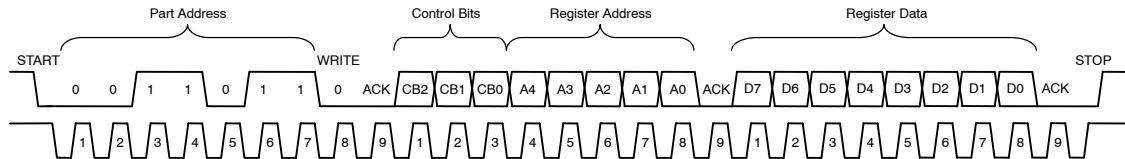

Figure 13. NCP1840 Write Protocol
The Write protocol that is used by the NCP1840 is depicted in Figure 13. As can be seen, the Master initiates the communication by issuing a START condition and then by broadcasting the 7-bit part address of the NCP1840 followed by a Write operation request (0). The NCP1840 acknowledges the request and then the Master transmits the address byte which consists of 3-bits of control data followed by the 5-bit address of the register to be written to. Upon successful receipt of the address byte, the NCP1840 acknowledges to the Master which then transmits the data